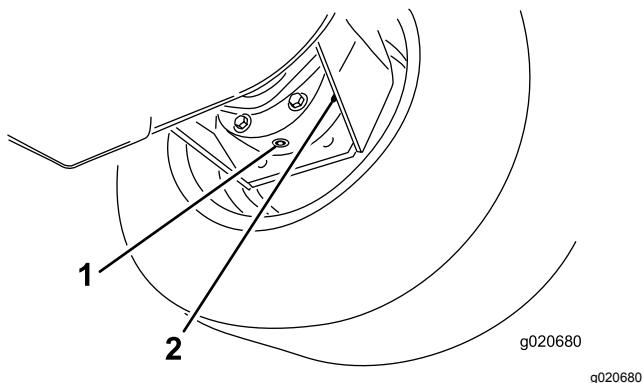

Figure 105
3. Place a drain pan under the brake housing, remove the drain plug, and allow the oil to drain (Figure 105).